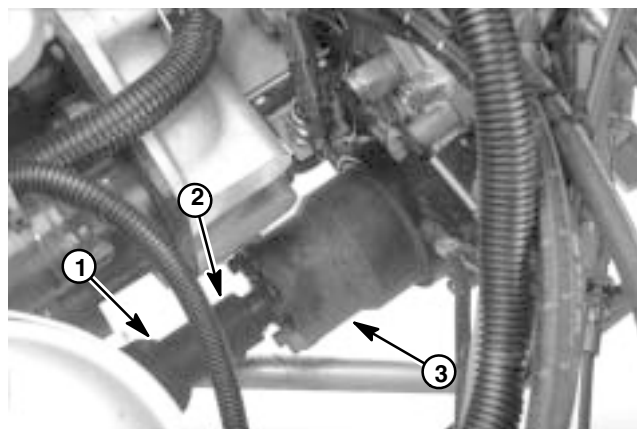

Figure 59
4. Slide slip yoke towards the bidirectional clutch. Pull slip yoke off the clutch shaft (Fig. 59).
1. Slide slip yoke onto clutch shaft (Fig. 59).